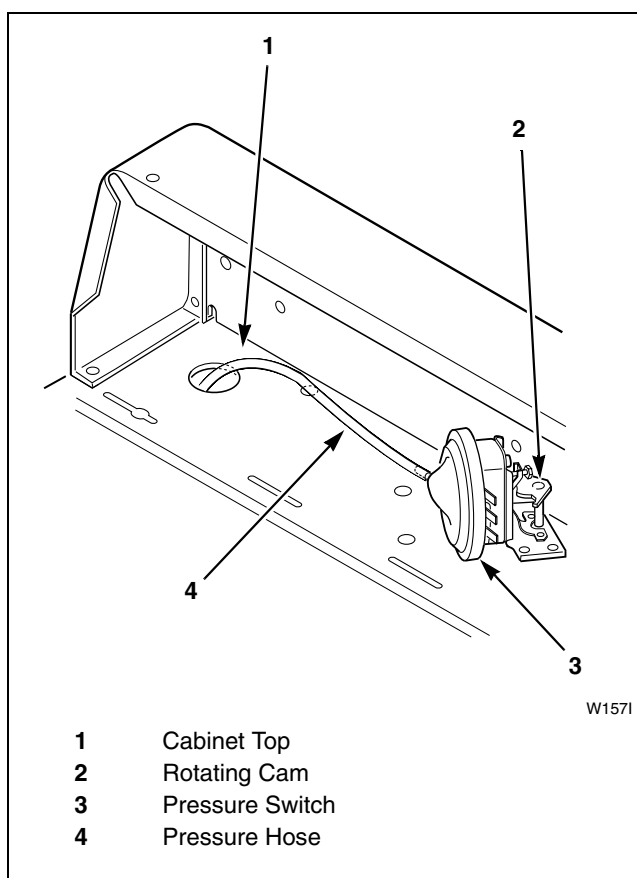

Figure 49
3. Rotate the cam on the pressure switch **clockwise to lower** the water fill height, or **counterclockwise to raise** the height. Refer to *Figure 49*.